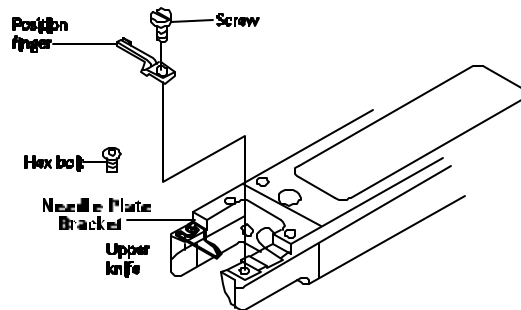

Figure 3
26. **Upper Knife** tip rests on Position Finger and back rests flush against Needle Plate Bracket (**MK 4** trimmer only apply). See Figure 3.